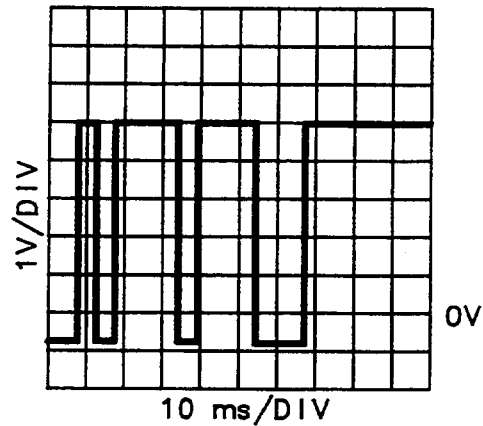

Figure 8-12. A4TP14 Ramp End Waveform
22. Connect the oscilloscope to A4TP14. Verify the signal shown in Figure 8-12.